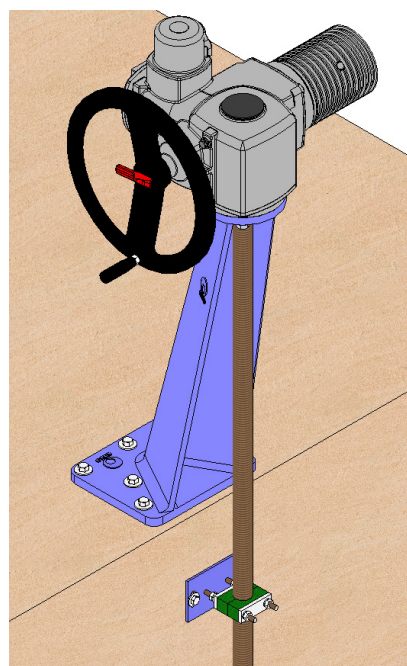

Fig. 12
- Possibility of leaning floor stand (Fig. 12).